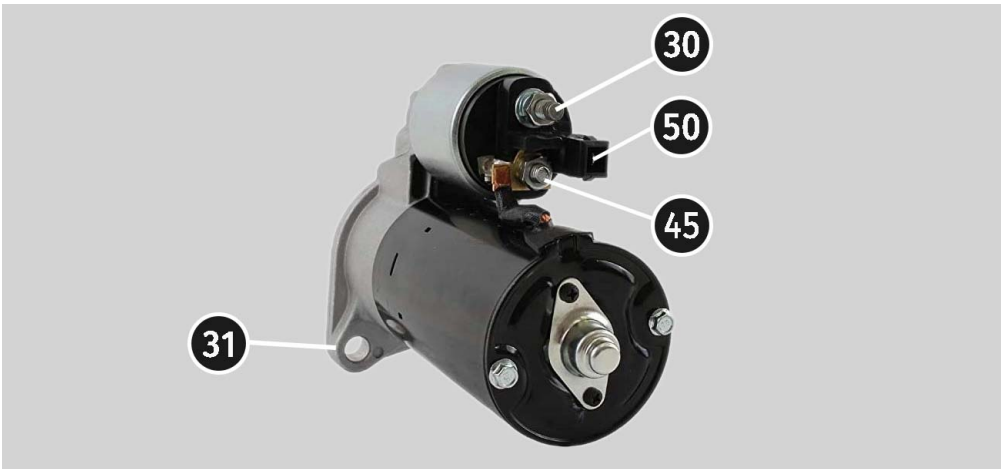

Figure 30. Terminal Locations on the Starter
3. Connect the bench connector "50" with a cable to the control output of the starter solenoid terminal 50, see Figure 30.
4. Connect the universal diagnostic cable K30 and K45 wires to the corresponding terminals of the starter, see Figure 30.